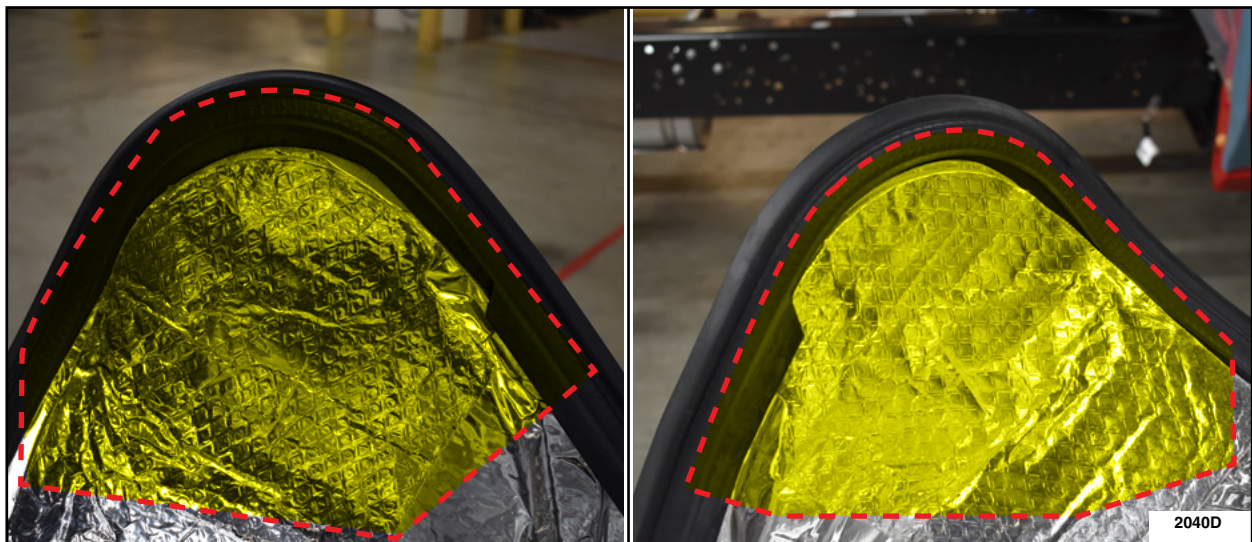

FIGURE 9
24. Clean the inside surface of the weatherstrip and the existing thermal shield with isopropyl alcohol and a clean shop cloth. See Figure 9.